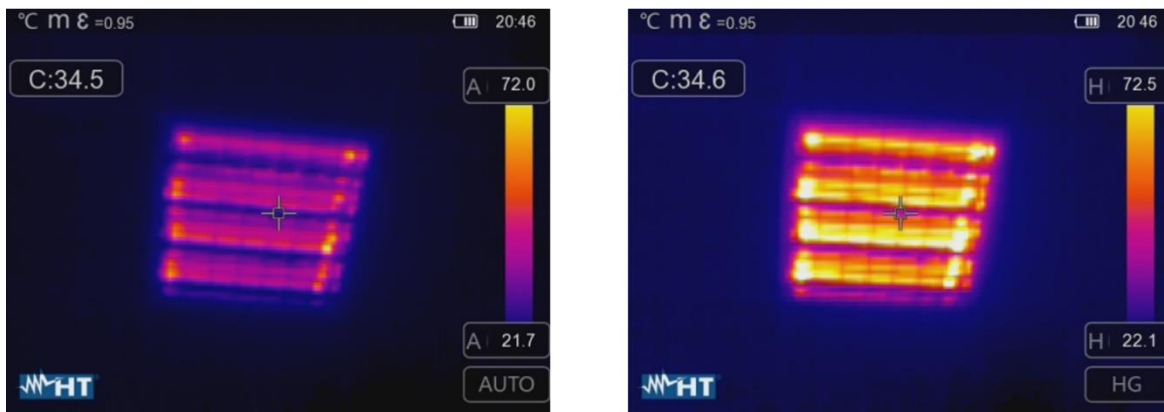

Fig. 44: Setting the Automatic and Histogram modes
- **Histogram (HG)** mode → the minimum and maximum temperature levels of the object framed on the display are always defined automatically by the instrument, as in the Auto mode, but in this case, the areas of the image in which temperature values are very different from the values of adjacent areas are highlighted. The relationship between temperature and color of the palette is **non-linear** according to a histogram algorithm. This mode emphasizes image display in very dark working environments.
1. Press key or touch the icon “AUTO” found at the bottom on the right side of the display. The screens in Fig. 44 show the selection of modes “AUTO” and “HG”.